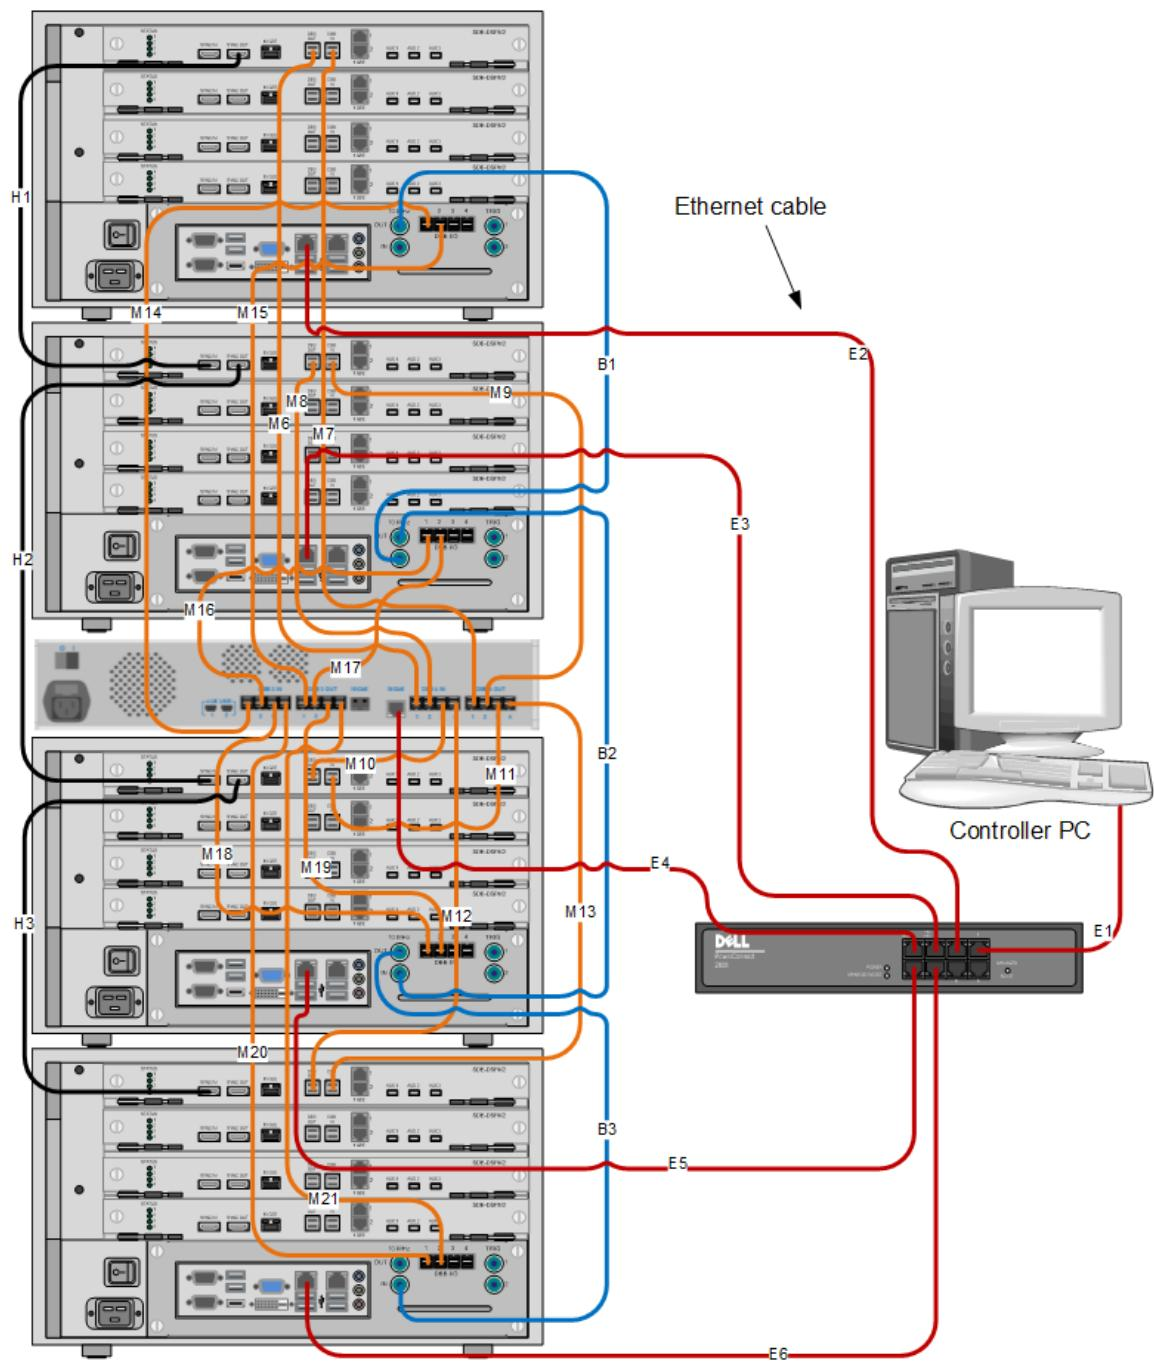

Figure 32. Quad-Vertex configuration - rear panel.
1. On the rear panel, connect a BNC cable from the 10MHz OUT port on Vertex1 to the 10MHz IN port on Vertex2. (See cable B1 in Figure 32.)
2. On the rear panel, connect a BNC cable from the 10MHz OUT port on Vertex2 to the 10MHz IN port on Vertex3. (See cable B2 in Figure 32.)
3. On the rear panel, connect a BNC cable from the 10MHz OUT port on Vertex3 to the 10MHz IN port on Vertex4. (See cable B3 in Figure 32.)
6. On the rear panel, connect a 1.5M mini SAS HD cable from the DSPM1 DBB OUT port on Vertex1 to the DBB4 IN1 port on the Vertex Baseband Synchronizer. (See cable M6 in Figure 32.)
7. On the rear panel, connect a 1.5 mini SAS HD cable from the DBB4 OUT1 port on the Vertex Baseband Synchronizer to the DSPM1 DBB IN port on Vertex1. (See cable M7 in Figure 32.)
8. On the rear panel, connect a 1M mini SAS HD cable from the DSPM1 DBB OUT port on Vertex2 to the DBB4 IN2 port on the Vertex Baseband Synchronizer. (See cable M8 in Figure 32.)
9. On the rear panel, connect a 1M mini SAS HD cable from the DBB4 OUT2 port on the Vertex Baseband Synchronizer to the DSPM1 DBB IN port on Vertex2. (See cable M9 in Figure 32.)
10. On the rear panel, connect a 1M mini SAS HD cable from the DSPM1 DBB OUT port on Vertex3 to the DBB4 IN3 port on the Vertex Baseband Synchronizer. (See cable M10 in Figure 32.)
11. On the rear panel, connect a 1M mini SAS HD cable from the DBB4 OUT3 port on the Vertex Baseband Synchronizer to the DSPM1 DBB IN port on Vertex3. (See cable M11 in Figure 32.)
12. On the rear panel, connect a 1.5M mini SAS HD cable from the DSPM1 DBB OUT port on Vertex4 to the DBB4 IN4 port on the Vertex Baseband Synchronizer. (See cable M12 in Figure 32.)
13. On the rear panel, connect a 1.5M mini SAS HD cable from the DBB4 OUT4 port on the Vertex Baseband Synchronizer to the DSPM1 DBB IN port on Vertex4. (See cable M13 in Figure 32.)
14. On the rear panel, connect a 1.5M mini SAS HD cable from the DBB I/O P1 port on Vertex1 to the DBB3 IN1 port on the Vertex Baseband Synchronizer. (See cable M14 in Figure 32.)
15. On the rear panel, connect a 1.5M mini SAS HD cable from the DBB3 OUT1 port on the Vertex Baseband Synchronizer to the DBB I/O P2 port on Vertex1. (See cable M15 in Figure 32.)
16. On the rear panel, connect a 1M mini SAS HD cable from the DBB I/O P1 port on Vertex2 to the DBB3 IN2 port on the Vertex Baseband Synchronizer. (See cable M16 in Figure 32.)
17. On the rear panel, connect a 1M mini SAS HD cable from the DBB3 OUT2 port on the Vertex Baseband Synchronizer to the DBB I/O P2 port on Vertex2. (See cable M17 in Figure 32.)
18. On the rear panel, connect a 1M mini SAS HD cable from the DBB I/O P1 port on Vertex3 to the DBB3 IN3 port on the Vertex Baseband Synchronizer. (See cable M18 in Figure 32.)
19. On the rear panel, connect a 1M mini SAS HD cable from the DBB3 OUT3 port on the Vertex Baseband Synchronizer to the DBB I/O P2 port on Vertex3. (See cable M19 in Figure 32.)
20. On the rear panel, connect a 1.5M mini SAS HD cable from the DBB I/O P1 port on Vertex4 to the DBB3 IN4 port on the Vertex Baseband Synchronizer. (See cable M20 in Figure 32.)
21. On the rear panel, connect a 1.5M mini SAS HD cable from the DBB3 OUT4 port on the Vertex Baseband Synchronizer to the DBB I/O P2 port on Vertex4. (See cable M21 in Figure 32.)
22. On the rear panel, connect an HDMI cable from the DSPM1 SYNC OUT port on Vertex1 to the DSPM1 SYNC IN port on Vertex2. (See cable H1 in Figure 32.)
23. On the rear panel, connect an HDMI cable from the DSPM1 SYNC OUT port on Vertex2 to the DSPM1 SYNC IN port on Vertex3. (See cable H2 in Figure 32.)
24. On the rear panel, connect an HDMI cable from the DSPM1 SYNC OUT port on Vertex3 to the DSPM1 SYNC IN port on Vertex4. (See cable H3 in Figure 32.)
25. Connect an Ethernet cable from the Ethernet switch to the Ethernet port on the Controller laptop. (See cable E1 in Figure 32.)
26. Connect an Ethernet cable from the Ethernet switch to the User Ethernet port on the rear panel of Vertex1. (See cable E2 in Figure 32.)
27. Connect an Ethernet cable from the Ethernet switch to the User Ethernet port on the rear panel of Vertex2. (See cable E3 in Figure 32.)
28. Connect an Ethernet cable from the Ethernet switch to the 10 GbE Ethernet port on the rear panel of the Vertex Baseband Synchronizer. (See cable E4 in Figure 32.)
29. Connect an Ethernet cable from the Ethernet switch to the User Ethernet port on the rear panel of Vertex3. (See cable E5 in Figure 32.)
30. Connect an Ethernet cable from the Ethernet switch to the User Ethernet port on the rear panel of Vertex4. (See cable E6 in Figure 32.)